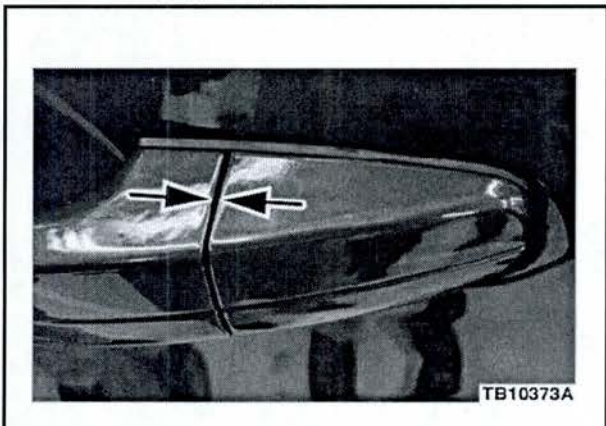

Figure 5 - Article 12-12-12
6. The gap between front and rear section of exterior door handle should be 1 mm (.039 in) nominal. (Figure 5)